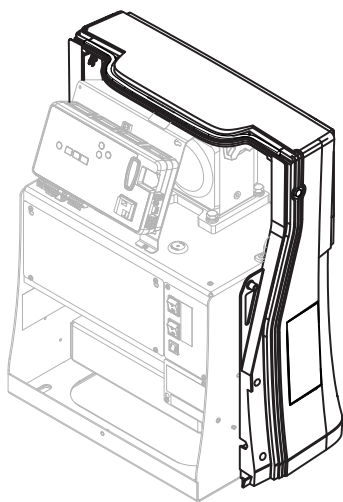

Figure 8. Place the Back Cover
2. Set the back cover on the chassis (Figure 8).